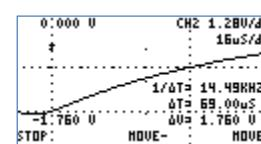

Figure 64: Half-life measurement
- 12) The display should look like figure 64. The measured time $T_{1/2} = 69\mu s$, is the “half-life” time, so $RC = 99.95\mu s$